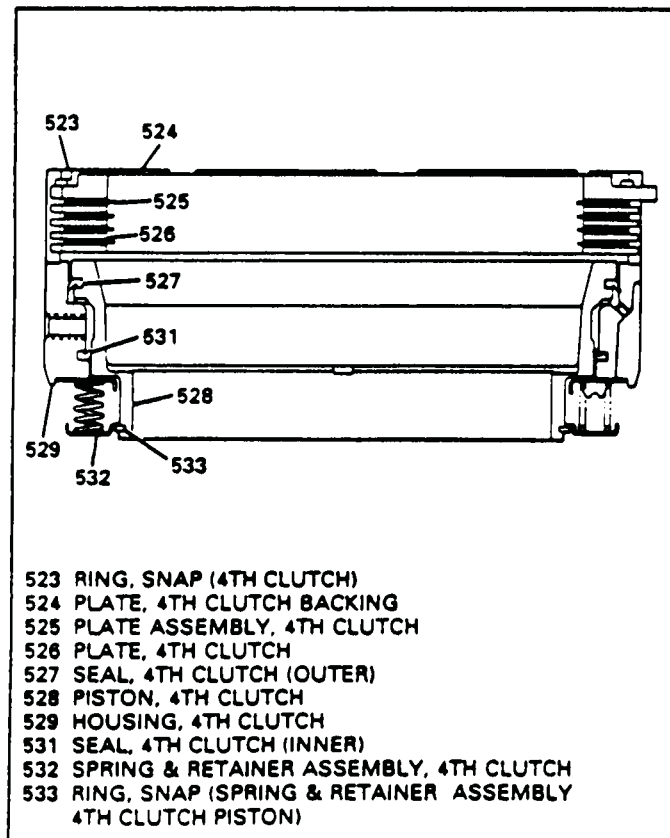

Figure 89
20. Turn the 4th housing assembly over and install 4steel plates, and 4 lined plates, starting with a steel plate and alternating. (See Figure 89).